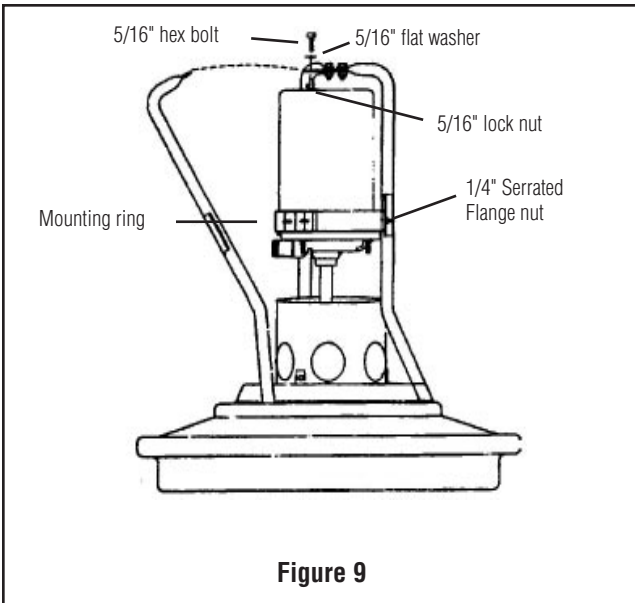

Figure 9
11. Insert the remaining two support arms in the float and attach each arm to the mounting ring using (2) 1/4" flange nuts. Do not fasten the support arm tightly to the ring at this time. Adjustment may be required later. See Figure 9. Use the second set of holes from the top of the support arm.
12. Using a 5/16" lock nut, 5/16" flat washer, and a 5/16" hex bolt for each arm, attach the bottom of the arms to the support arm brace. See Figure 9.